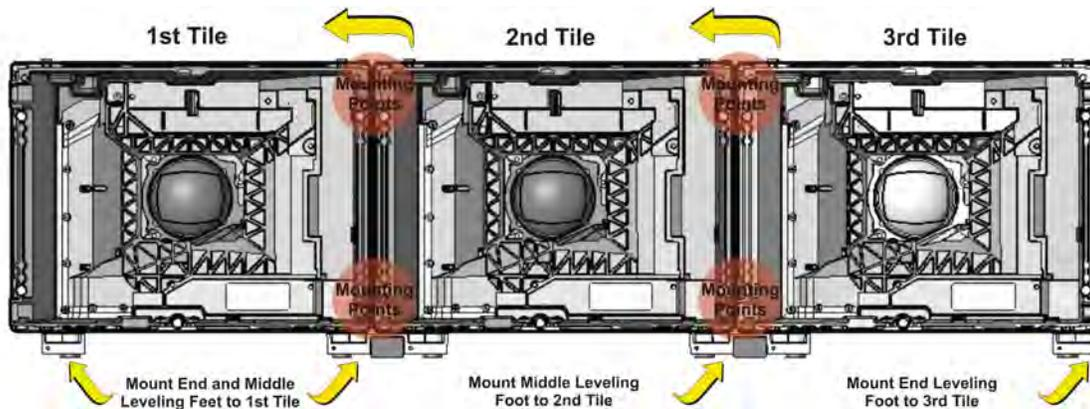

Figure 2-8 Construct the First Row of Christie MicroTiles
8. Hand thread an M6 screw (**Figure 2-8**) into the mounting points between the first two Christie MicroTiles (**Figure 2-8**). DO NOT completely tighten until the entire row is complete to allow for adjustments. **NOTICE! The M6 screw is optional and is provided to aid in the fine optimization of the seams.**